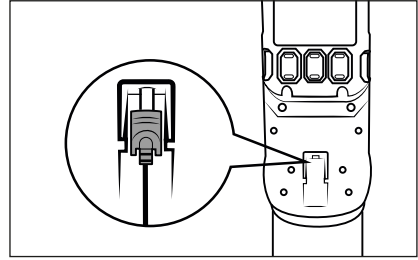

Fig. 8
- ▶ The vacuum cleaner can also be charged directly via the mains adapter **10**. To do this, remove the barrel plug **1** from the wall bracket **18** by turning it slightly and insert it into the charging socket **3** on the appliance (see Fig. 8).